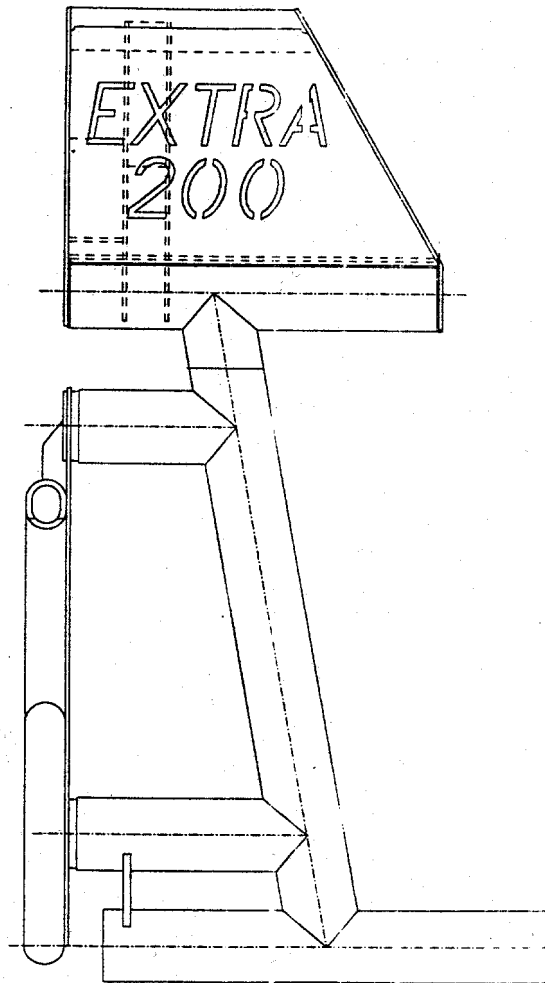

Figure 1
- Substitute the old brake pedals by the new ones (see figure 1).